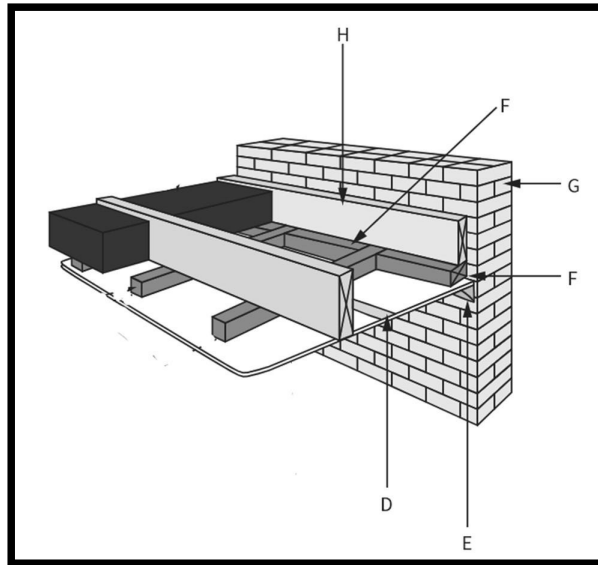

FIGURE 3.4
3.4 FIGURE 3.4 shows the attachment of a ceiling board to battens.